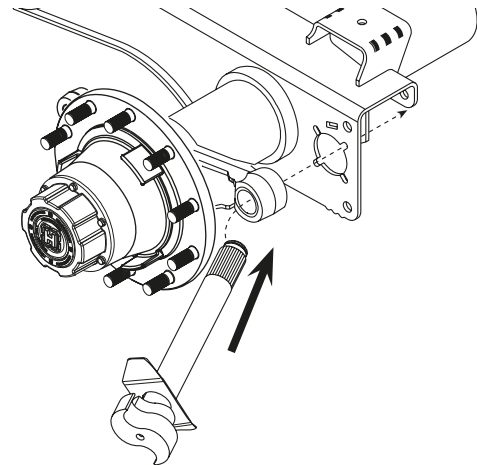

Figure 70: INTRAAX Installing S-Cam
3. Slide the Underhead cam washer onto the S-cam until it contacts the S-cam head as shown in Figure 70.
4. Angle and slide this S-cam assembly through the spider and beam (Figure 70).